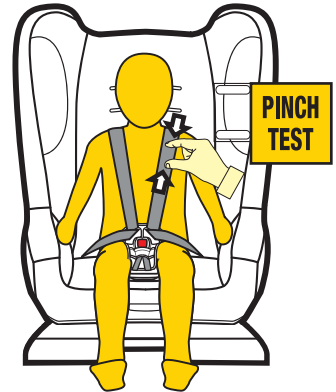

Figure 6
Step 6: Check the harness tightness by the **PINCH TEST**, this is achieved by pinching the harness webbing at the shoulders (refer Figure 6)